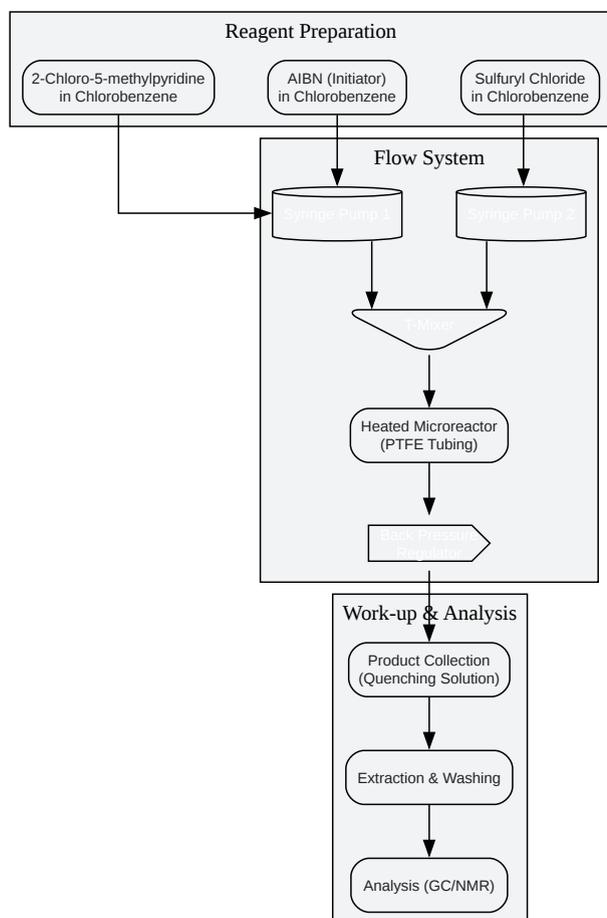

Figure 1. Experimental workflow for the continuous flow synthesis.
Caption: Figure 1. Experimental workflow for the continuous flow synthesis.
- Assemble the flow chemistry system as depicted in Figure 1. Ensure all connections are secure and chemically resistant.